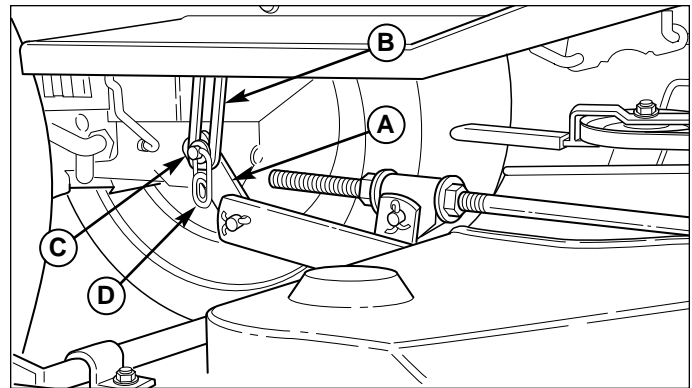

Figure 10. Lift Arms
4. Disconnect the mower lift arm (A, Figure 10) from the tractor lift arm (B). Re-install washer (C) and safety clip (D).
4. See Figure 10. Connect the mower lift arm (A) to the tractor lift arm (B) using the flat washer (C) and safety clip (D).